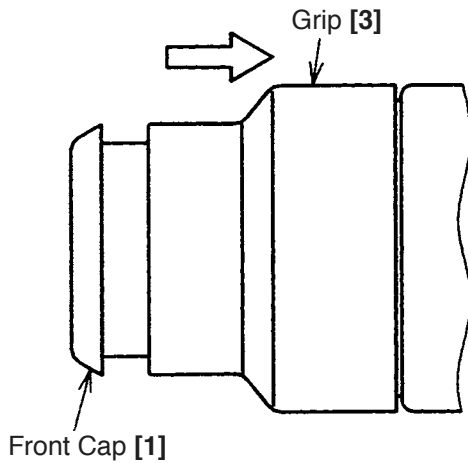
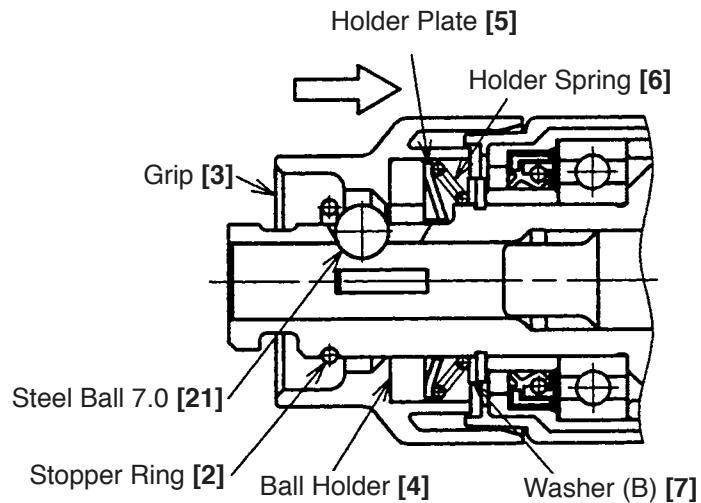

Fig. 9
Fig. 10
(2) Disassembly of the tool retainer
Slide the Grip [3] fully in the arrow direction as shown in Fig. 9 and remove the Front Cap [1]. Pulling the Grip [3] as shown in Fig. 10, remove the Stopper Ring [2] with a retaining ring puller. Then the Grip [3], Ball Holder [4], Steel Ball D7.0 [21], Holder Plate [5], Holder Spring [6] and Washer (B) [7] can be removed from the Cylinder [22].